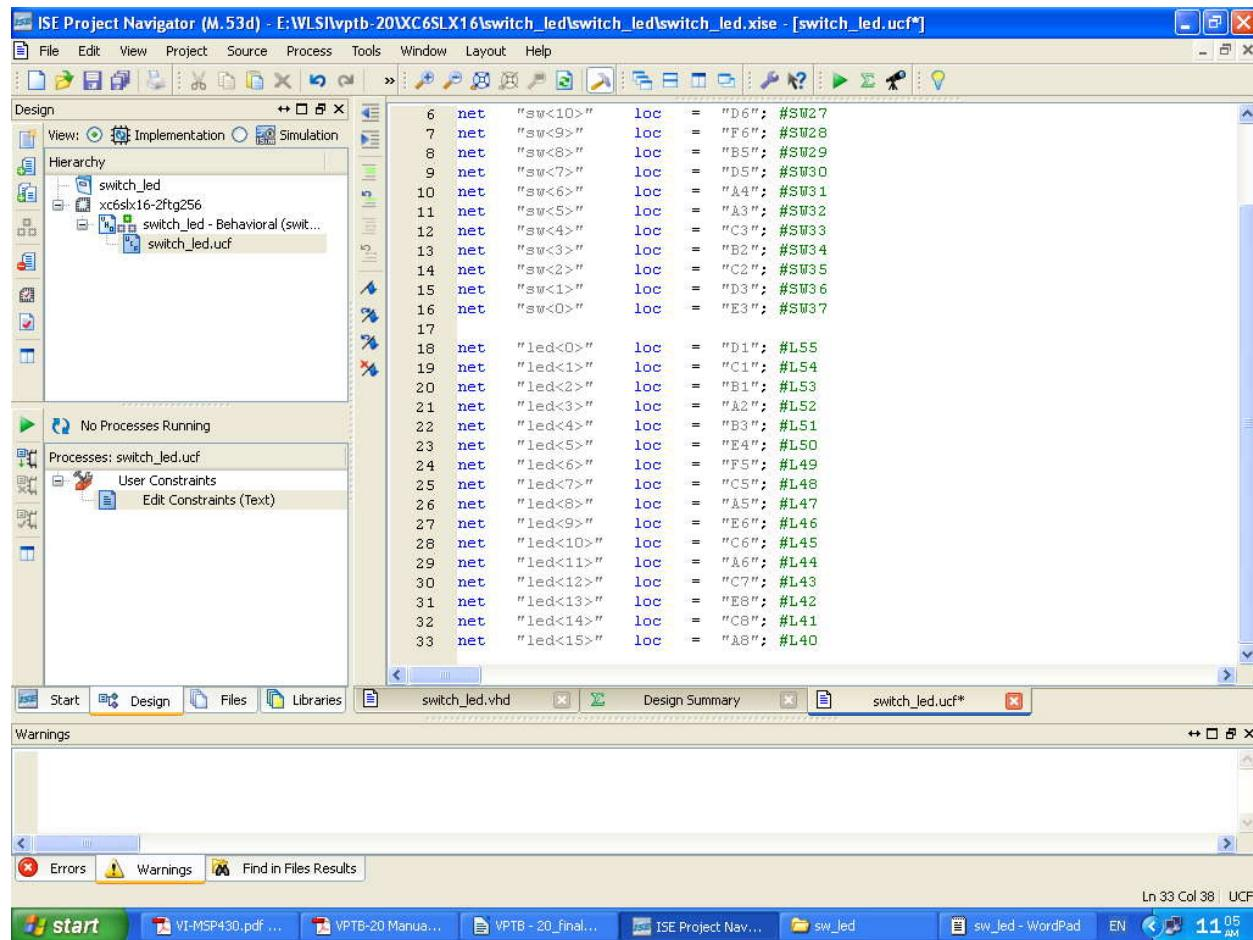

Figure-25
10. In this window type your pin assignments to the inputs and outputs corresponding to the FPGA pins. Refer Figure-25